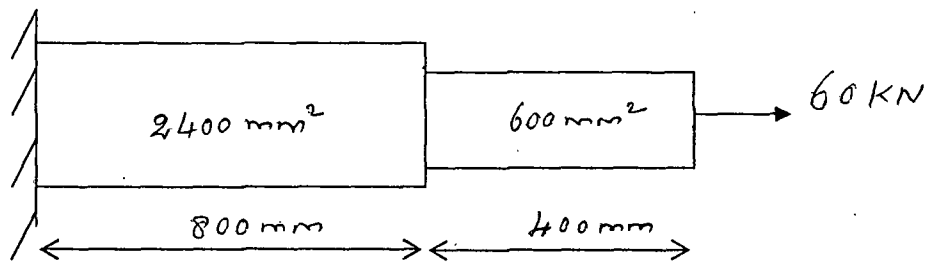

Figure.11
11. Find the stresses induced in the axially loaded stepped bar shown in figure 11.